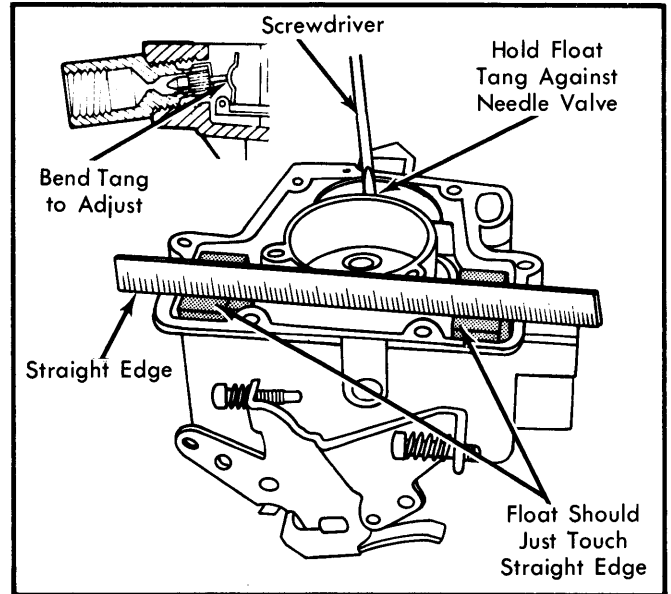

Fig. 1 Checking Float Level Using Straight Edge
4) If adjustment is needed, bend float tang and recheck. (See Fig. 1).